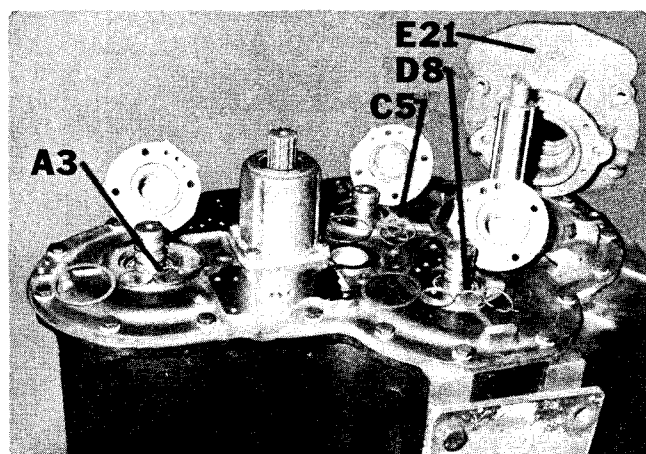

Figure 5
5. Unit should now be placed with main cover (M-1) facing upward (Figure 5).
10. Remove cover (E-21) containing O ring and oil seal (Figure 5)
13. Remove sealing rings (A-13, C-5 and D-8) (Figure 5)